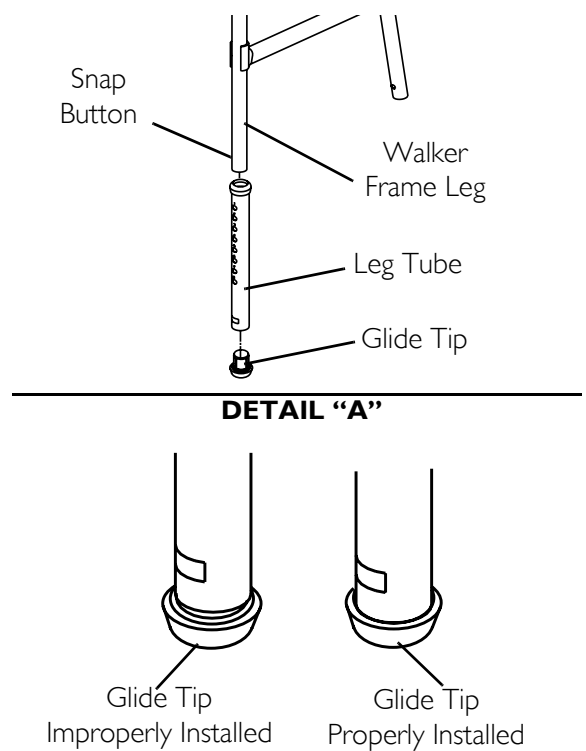

FIGURE 3 Installing the Glide Tip
NOTE: For this procedure, refer to FIGURE 3 on page 5.
4. Ensure the new glide tip is properly installed as shown in Detail "A" of FIGURE 3. If necessary, tap new glide tip into position.